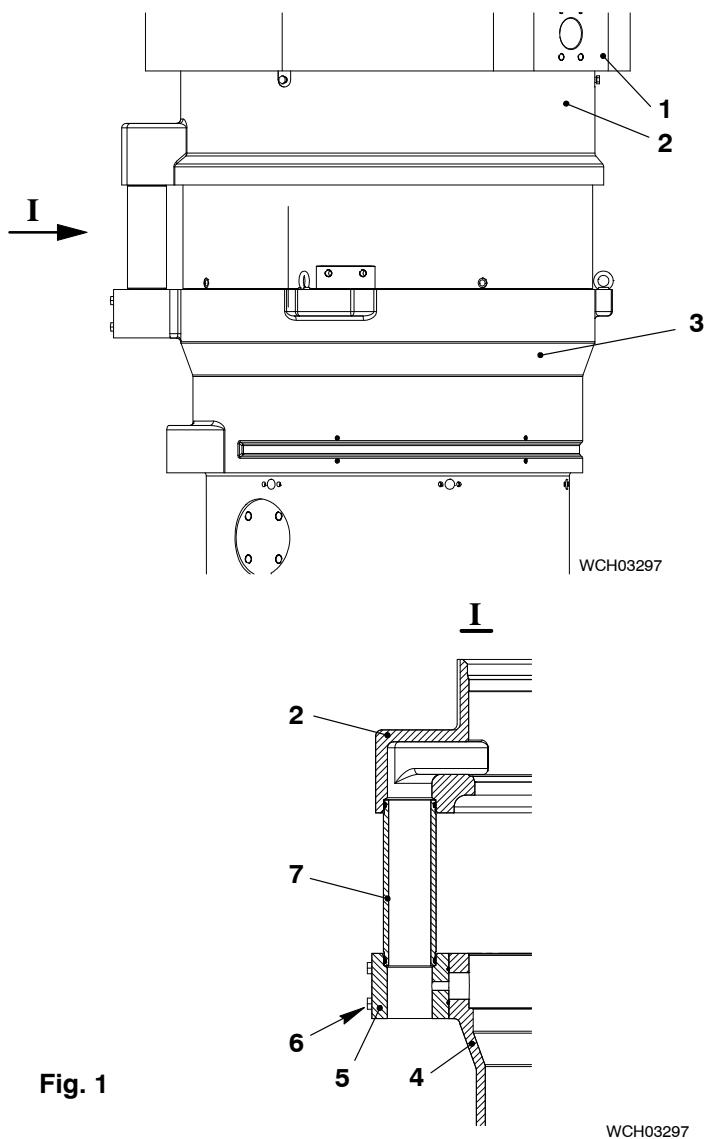

Fig. 1
- 1) Remove the screws (6, Fig. 1).
- 2) Remove the pipe connection (7) and the transition tubes (7) from the water guide jacket (4).